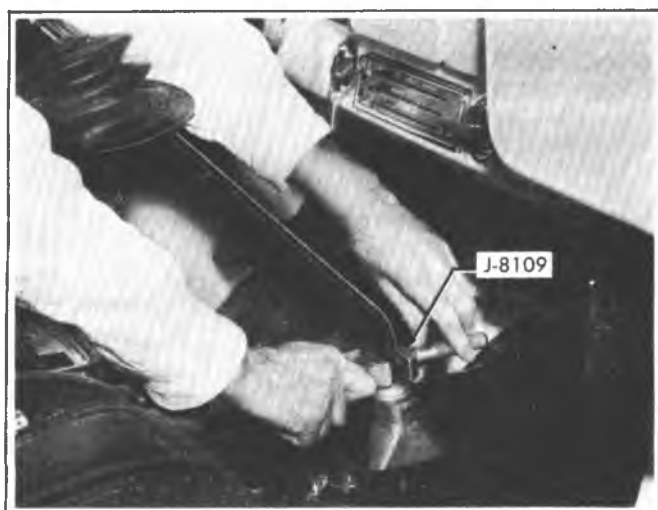

Fig. 7B-14--Removing Gearshift Lever
9. Move the transmission assembly straight away from the engine, using care to keep the transmission main drive gear shaft in alignment with the clutch disc hub. See Fig. 7B-13.